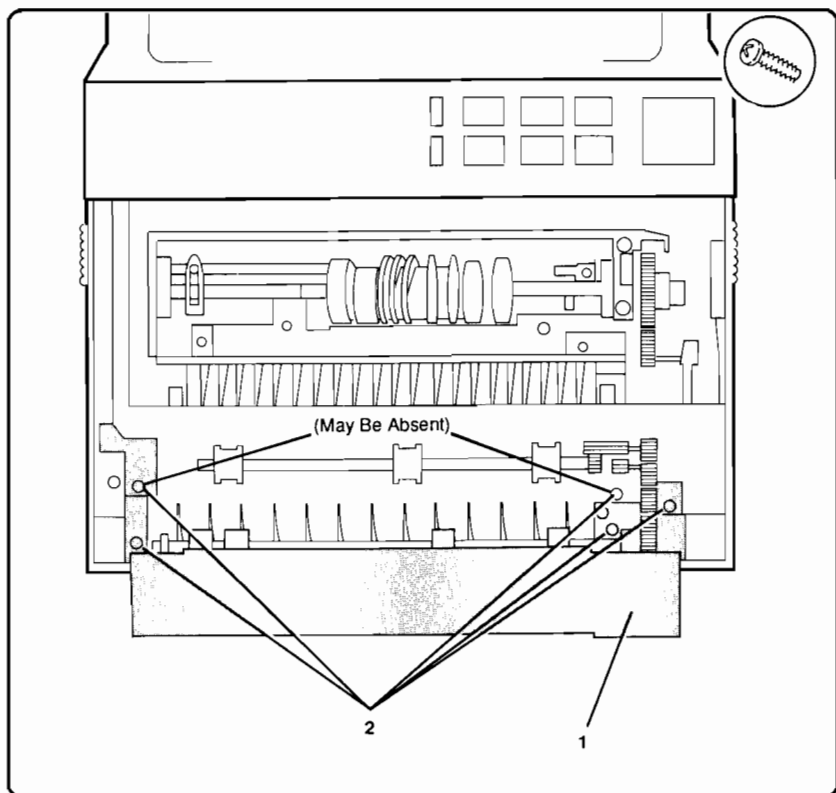

Figure 6-67. Internal Fuser Access Door Removal
3. Open the Internal Fuser Access Door (see Figure 6-67, callout 1).
4. Remove the screws (3-5) securing the Internal Fuser Access Door (see Figure 6-67, callout 2).
3. Remove the Internal Fuser Access Door Assembly (see Figure 6-67).